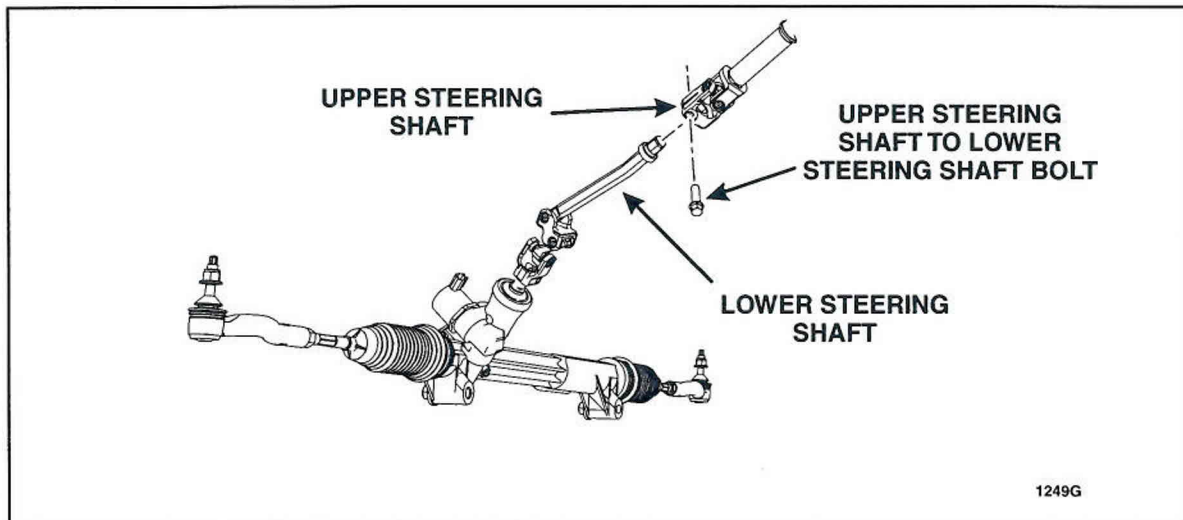

FIGURE 1
2. Remove and discard the upper steering shaft to lower steering shaft bolt and disconnect the lower steering shaft. See Figure 1.